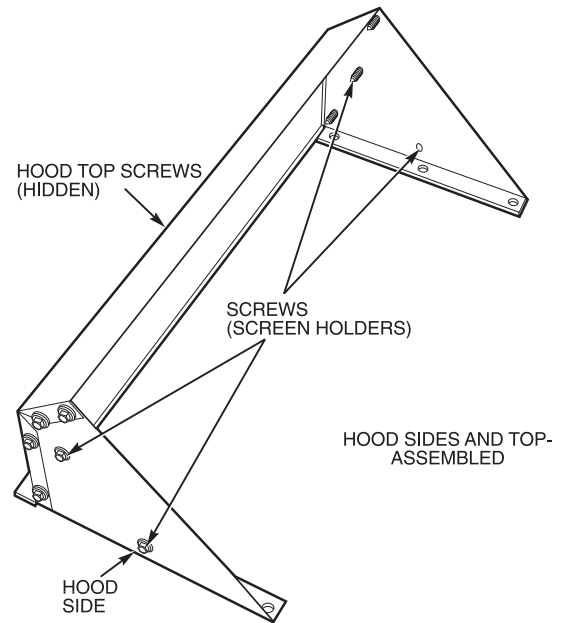
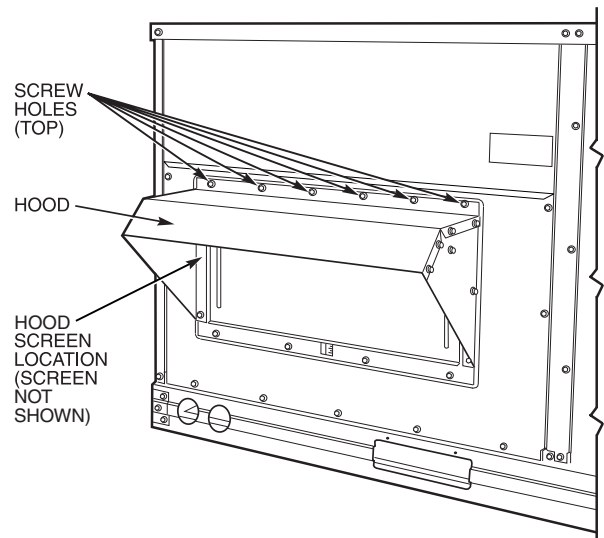

Fig. 13 — Outdoor-Air Hood Details
Fig. 14 — Optional Manual Outdoor-Air Damper with Hood Attached
5. Place hood on front of outdoor-air opening panel. See Fig. 13 for hood details. Secure top of hood with the 6 screws removed in Step 3. See Fig. 14.
7. Align screw holes on hood with screw holes on side of manual outdoor-air damper. See Fig. 13 and 14. Secure hood with 6 screws from Step 6.
9. Remove and save screws currently on sides of hood. Insert screens. Secure screens to hood using the screws. See Fig. 14.